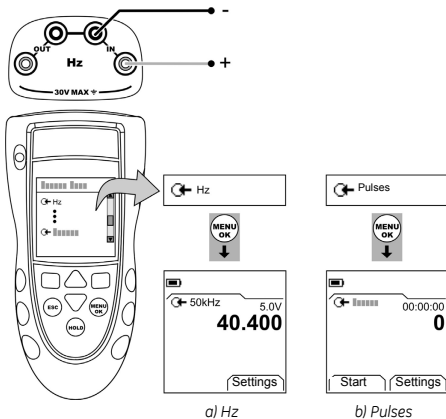

Figure 1: Example configuration - To measure Hz or count Pulses
1. Connect the instrument (Figure 1) and, if necessary, adjust the *Set Up* (Table 1).